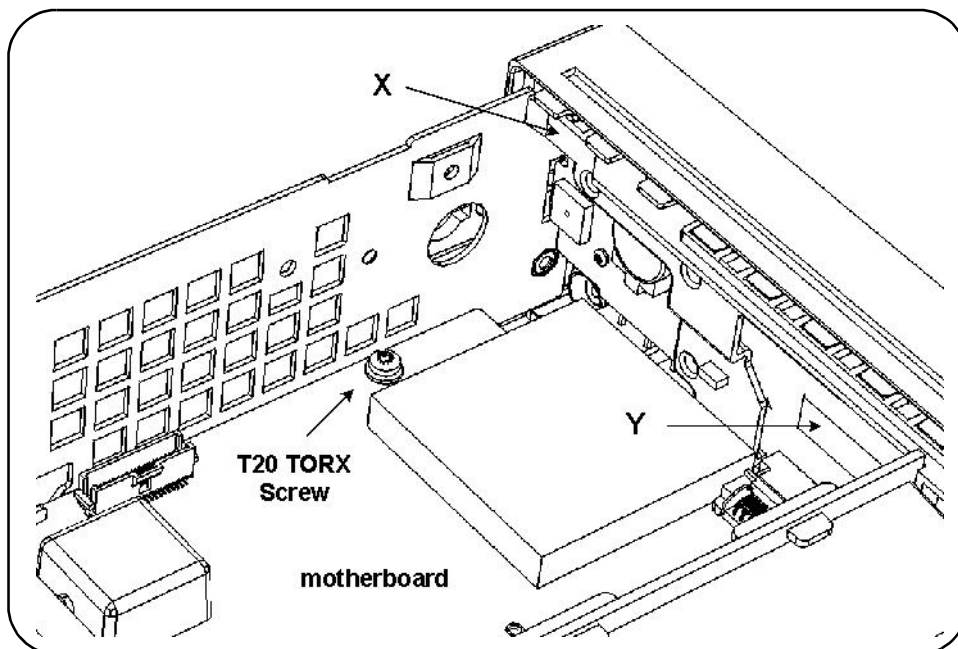

Figure 12. T20 TORX Screw on Motherboard.
5. Turn the counter chassis upright and position the rear panel facing you as shown in Figure 12.
6. Remove the T20 TORX screw on the front left-hand side of the A1 motherboard as shown in Figure 12.
7. With your right hand, press in on the plastic tab (X on Figure 12) at the top left front of the front panel, while at the same time, use your left hand to press in on the front of the left-hand aluminum chassis side-panel, so that the front of the side-panel overlaps the depressed tab and keeps it depressed. The left front standoffs should now be free of their holes.
8. On the middle front right-hand side of the front panel, pull the plastic tab (Y on Figure 12) carefully toward the rear of the chassis and simultaneously press in the right side panel of the aluminum chassis until the front panel is partially released. The right front standoffs should now be free of their holes.